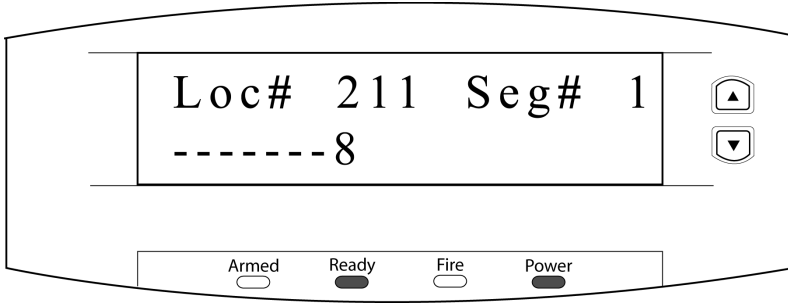

Figure 11: Alarm Panel - Location 211, Segment 1
4. Enter the location for Programming the Command/Request Enables, which is **2 1 1**, followed by the **#** key. This location has four segments that must be configured. For Location 211, Segment 1, only option number 8 should be on. Once completed, the LCD will look similar to Figure 11.